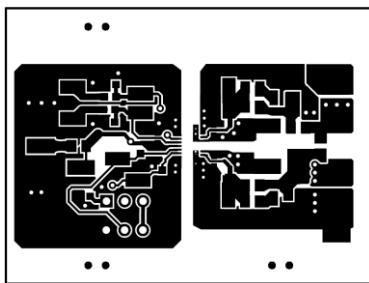
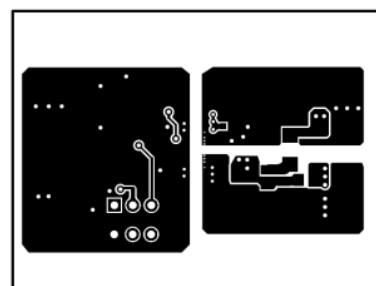

図 10-1. Top Layer Traces and Copper
図 10-2. Bottom Layer Traces and Copper
- Increasing the PCB copper connecting to VDDA, VDDB, VSSA and VSSB pins is recommended, with priority on maximizing the connection to VSSA and VSSB (see 図 10-1 and 図 10-2). However, high voltage PCB considerations mentioned above must be maintained.